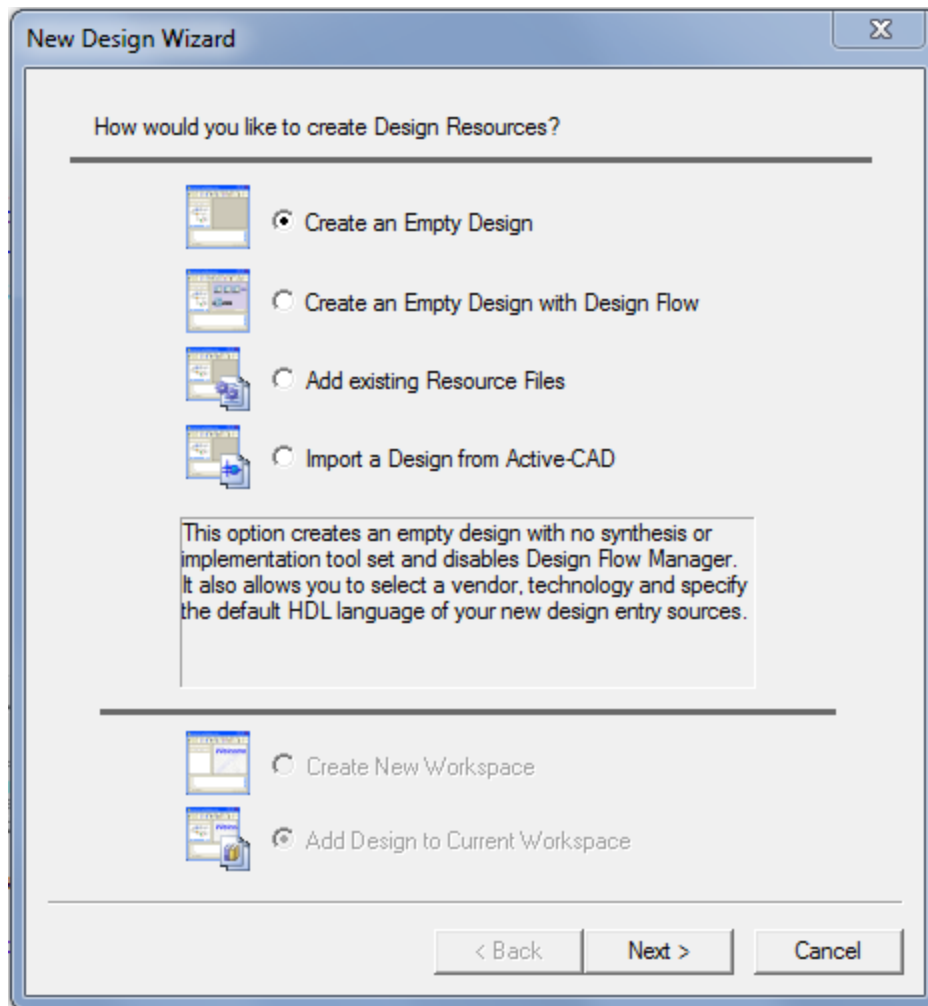

Figure 2 Create new workspace Wizard (Design Window)
- A window will pop up for creating new design. (Refer to Figure 2)